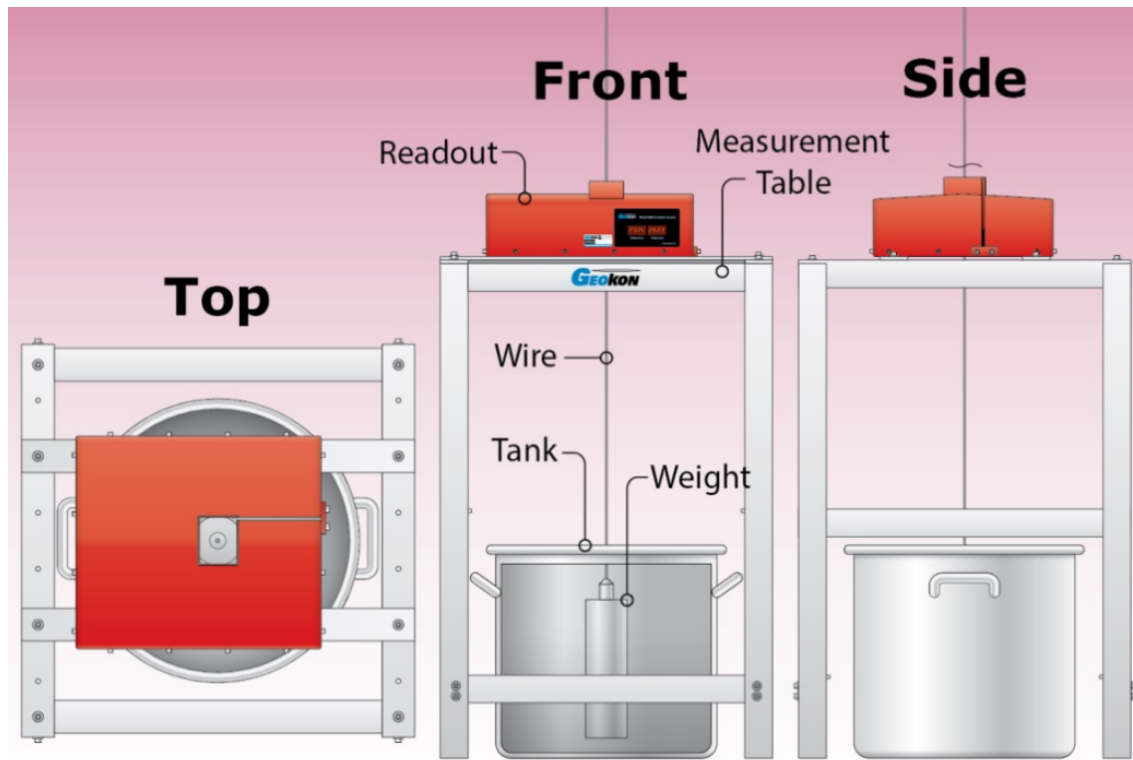

Figure 10 - Direct Pendulum System with Measurement Table
- 14) Figure 10 on the following page shows the assembly thus far.
- 28) Figure 10 depicts the assembly thus far.